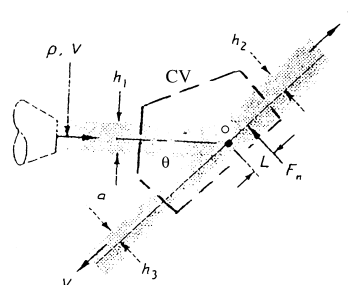

Fig. P3.122
3.122 Extend Prob. 3.46 to the problem of computing the center of pressure L of the normal face F_n , as in Fig. P3.122. (At the center of pressure, no moments are required to hold the plate at rest.) Neglect friction. Express your result in terms of the sheet thickness h_1 and the angle θ between the plate and the oncoming jet 1.